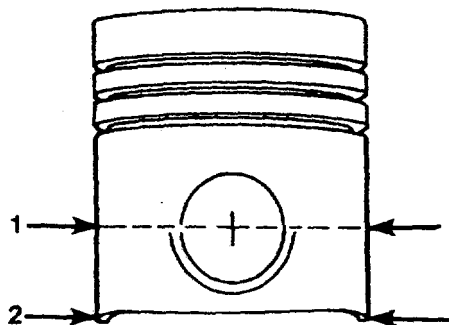

FIGURE 4-70. *Piston Measurement.*
- (9) Measure the inside diameter of the piston pin bore at several points. Replace piston if diameter is not between 2.3985 inch (60.922 mm) and 2.3989 inch (60.932 mm).
- (10) Measure the outside diameter of the piston at the centerline of the pin bore (1, FIG. 4-70) and at 1 inch (25 mm) from the bottom (2). Replace piston if measurements are not as follows: